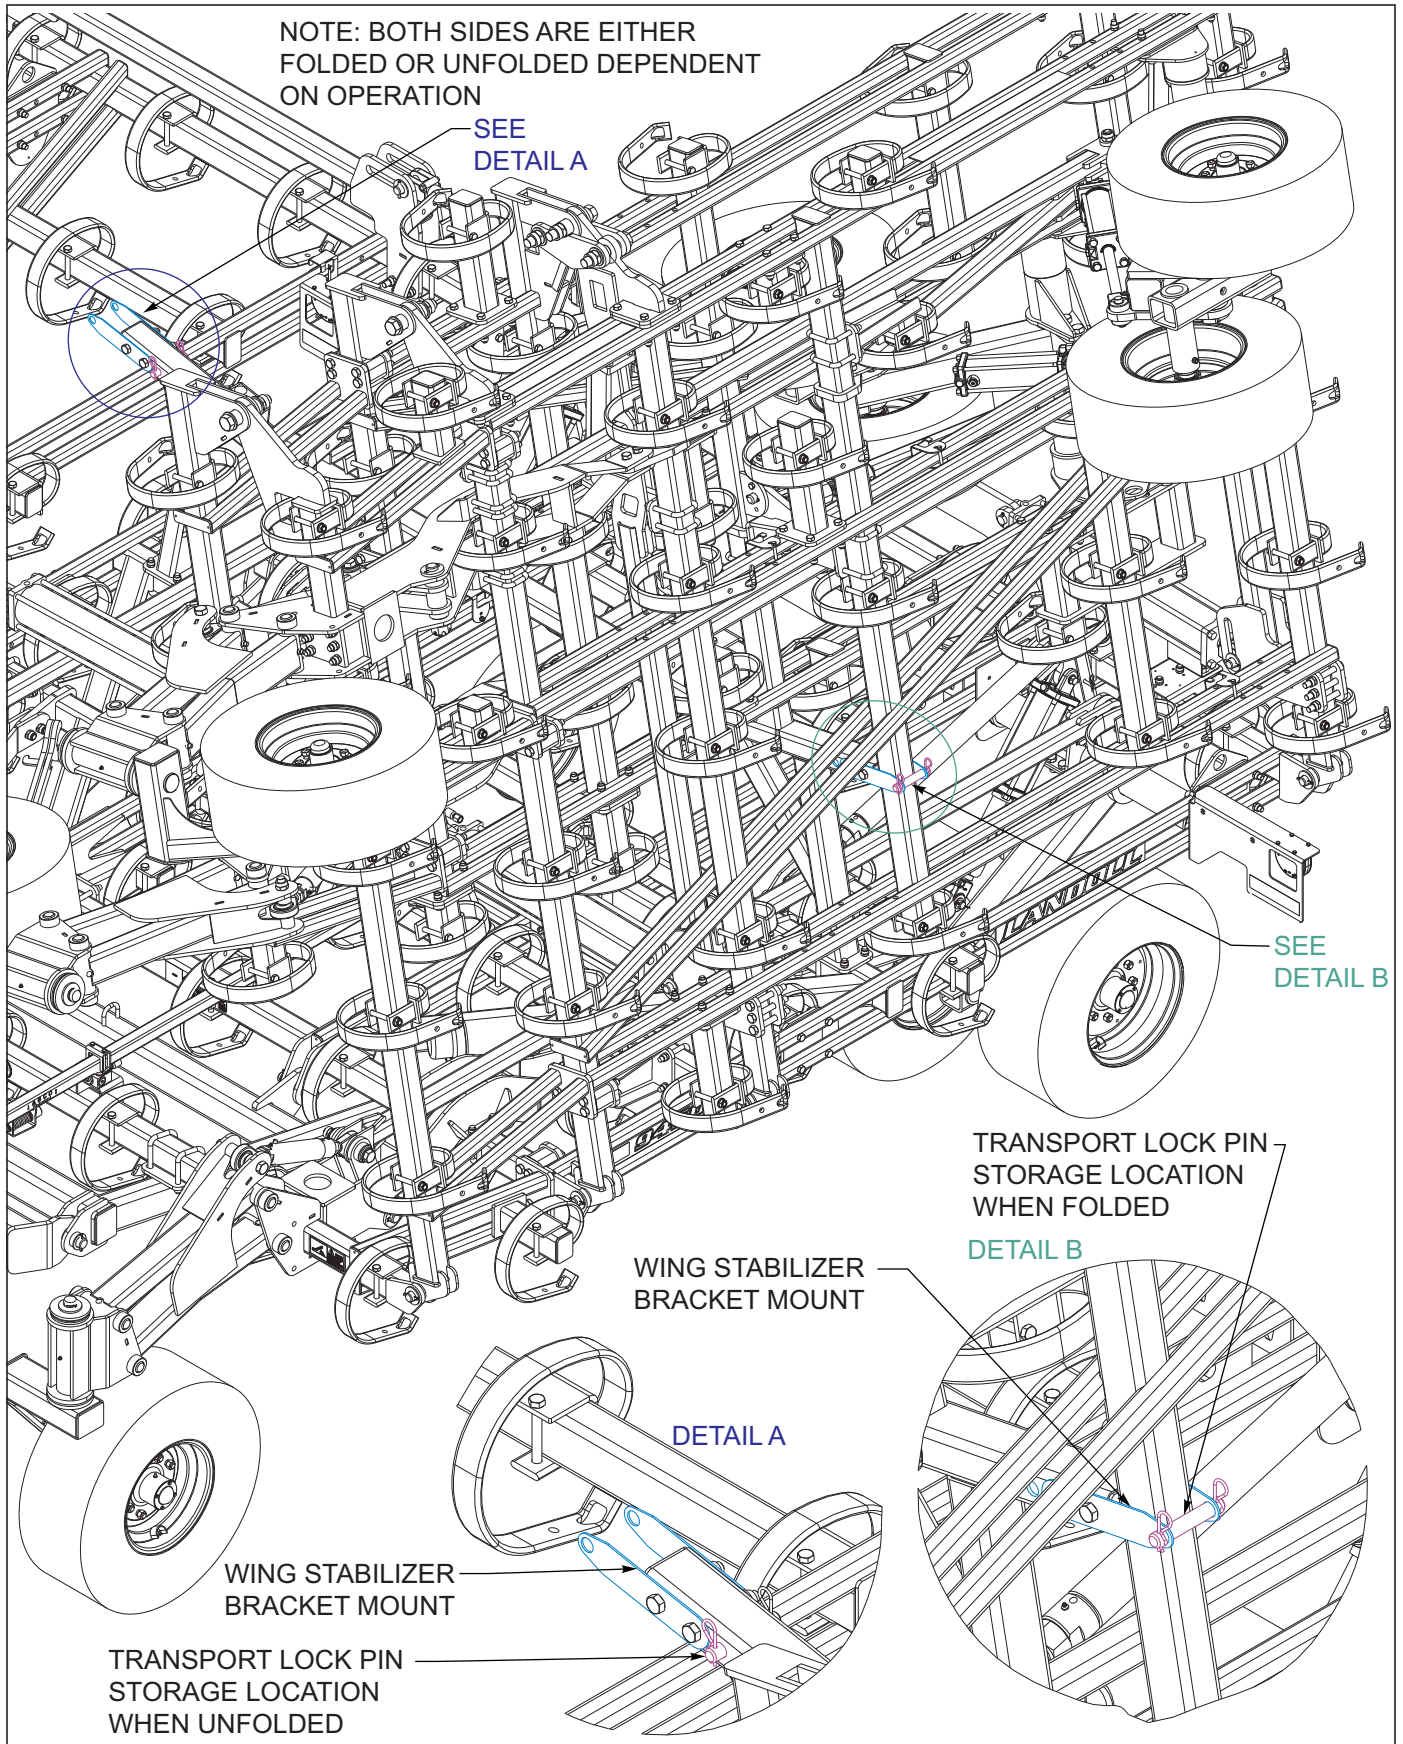

Figure 4-4: Wing Stabilizer Bracket Locks
4. To fold/unfold the Field Cultivator, find a level area large enough to accommodate the machine when it is fully unfolded. ***Stay away from power lines when folding/unfolding implement. Electrocutation can occur without direct contact.*** The tractor should be stopped and not moving with the implement fully raised. Remove the wing transport lock pins from the mounts and install them in the storage locations *See Figure 4-4*.
5. Slowly engage the tractor lever and fold/unfold the wing frames. When the wings are unfolded, continue holding the tractor lever to fully extend all fold cylinders. This will allow the wings to fully flex in the field. When the unit is fully folded, remove the wing transport lock pins from the storage location and install in the mounts provided on each side of the machine *See Figure 4-4*.
7. Storage - For extended periods of non use, it is best to store the Field Cultivator inside if possible. If the unit must be stored outside for extended periods, is best to apply a light coating of oil or grease to exposed cylinder rods to prevent them from rusting. If the unit is stored in the folded position, make sure the wing transport lock pins are installed to prevent wing frames settling *See Figure 4-4*.